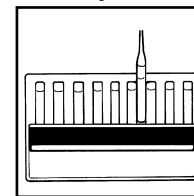

Figure 6
- b. Hold the high range comparator in a nearly horizontal position while standing directly beneath a bright source of light. Place the VACUette between the color standards moving it from left to right along the comparator until the best color match is found (fig 6).